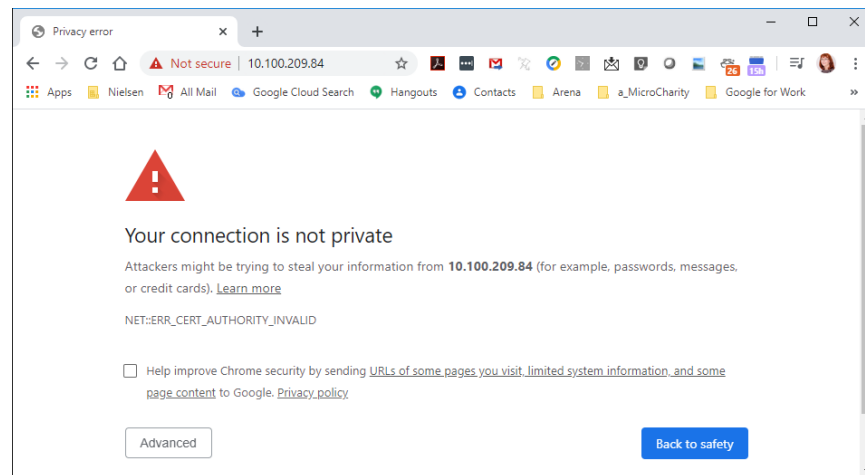

Figure 5: SSL Certificate Warning for Internet Explorer on Windows 7
When accessing the monitor via HTTPS (using Ethernet), the monitor uses Secure Sockets Layer (SSL) authentication. This means that, until and unless an SSL certificate is installed on the PC connected to the monitor, any attempt to access the monitor via HTTPS causes a warning message to appear (Figure 5). The message does not prevent access, but clicking through it adds another step to the login process. Nielsen recommends installing the Nielsen Monitor Root CA certificate provided with the monitor. For detailed information on the purpose of the certificate and for installing the certificate for PCs, see Appendix A – Install and Use a Security Certificate.
- If the computer is connected to a network and the Nielsen Monitor Root CA certificate has not been installed on the PC, the certificate is out of date, or the computer has the latest version of the Chrome browser (58.03x), a warning message appears as shown in or similar to Figure 5. Depending on the browser you use, this message may have a different appearance. Do one of the following: